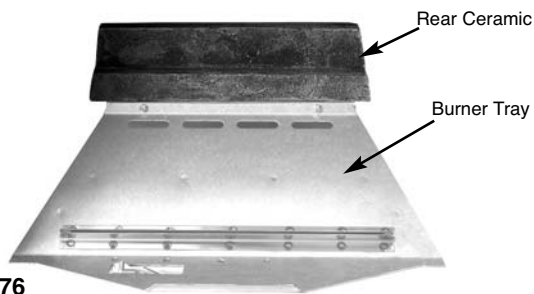

Fig. 76
1. Place the rear ceramic on the rear ceramic retainer ledge in a central position, ensuring the step portion is facing the front (Fig. 76).